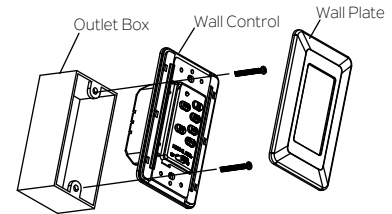

Fig. 23
Step 2. Use the screws provided to secure the wall control to the outlet box.(Fig. 23)